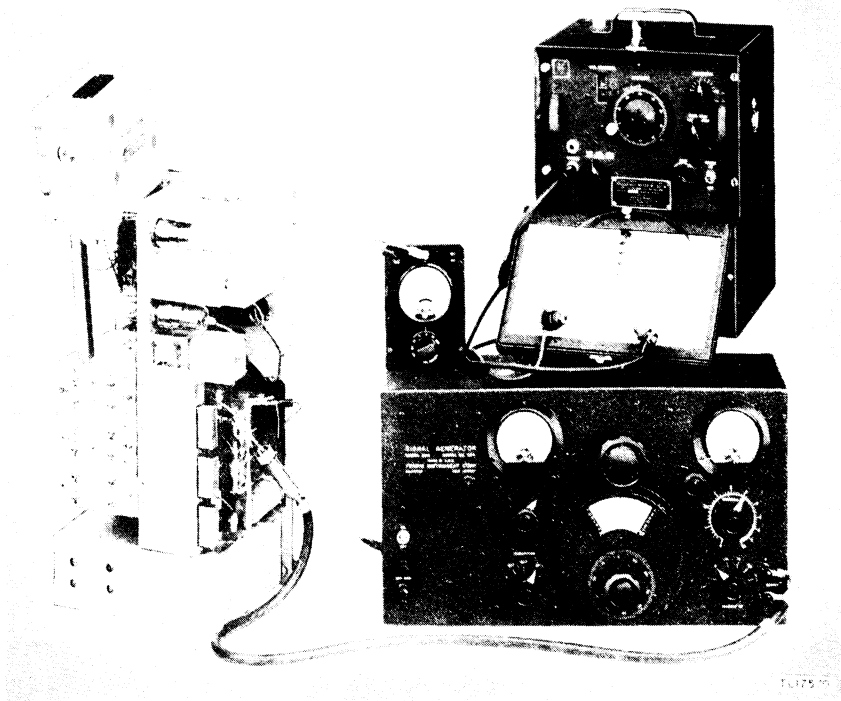
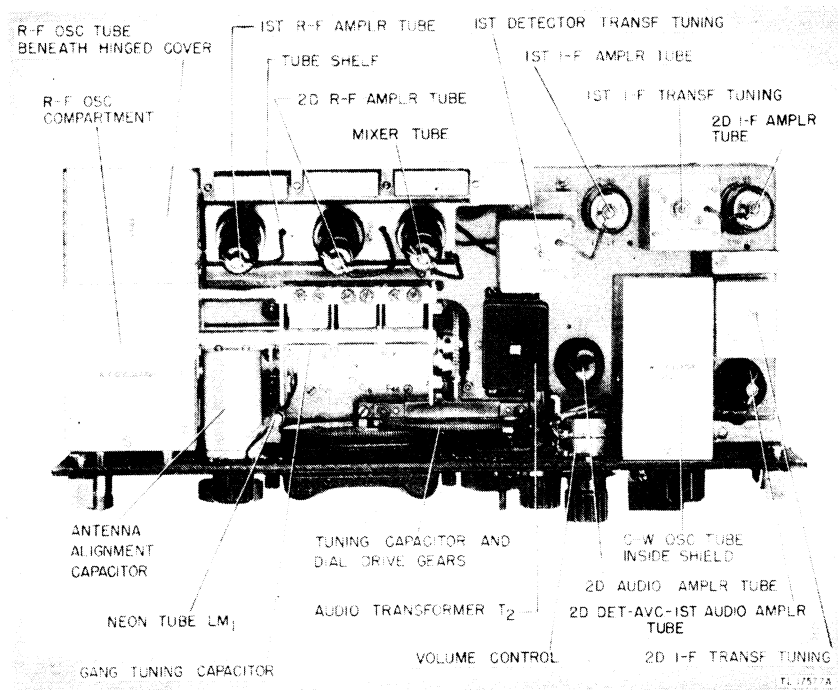

Figure 72. Typical test set up for receiver i-f alignment.
Figure 73. Receiver chassis, top view, showing alignment points.
*a. PREPARATION.* Set up the receiver and alignment equipment as shown in figure 72. Calibrate the signal generator for a 470-kc signal (h-f receiver models) or for a 92.5-kc signal (m-f receiver models). Remove the two screws from the top of the chassis that hold the dynamotor or rectifier in place. Remove the screw from the dynamotor or rectifier inner mounting hinge and swing the power supply assembly upward, securing it in position with a rack or a block of wood. Set the OFF-M.V.C.-A.V.C. switch to M.V.C., the CRYSTAL PHASING control to OUT (h-f models), the SELECT CONTROL at maximum (m-f models), the C.W.-OSC. switch to OFF, and the VOL control to maximum. Loosen the i-f transformer screw locknuts.
*b. PROCEDURE.* (1) Attach the signal generator ground lead to the receiver chassis and connect the dummy antenna (300-ohm resistor) between the grid cap of the second i-f amplifier tube and the output lead from the signal generator.
(2) Connect the output meter to the PHONES 2D AUDIO jack and adjust the signal generator output (modulated) to give a small deflection on the output meter, using the smallest scale possible.
(3) Adjust the second i-f transformer adjustment screws located on the top and bottom of the transformer (figs. 73 and 74) for a maximum output indication. Reduce the signal generator output whenever necessary during alignment to avoid overloading the receiver.
**a. PREPARATION.** Set up the receiver and alignment equipment as shown in figure 72. Remove the two screws from the top of the chassis that hold the dynamotor or rectifier in place. Remove the screw from the dynamotor or rectifier inner mounting hinge and swing the power supply assembly upward, securing it in position with a rack or a block of wood. Set the OFF-M.V.C.-A.V.C. switch to M.V.C., the SELECT CONTROL to maximum, the C.W.-OSC. switch to OFF, and the VOL control to maximum. Loosen the i-f transformer screw locknuts.
**b. PROCEDURE.** (1) Turn on the signal generator and the frequency meter and allow at least 15 minutes for them to warm up to insure frequency stability.
(2) Set the receiver tuning dial to any frequency on any band. For example: 200 kc.
(3) Plug the headset into the frequency meter and insert the end of a lead from the antenna post on the frequency meter into the receiver oscillator compartment (open hinged cover). Lay
a. PREPARATION. Set up the equipment as for the i-f alignment (fig. 72). Calibrate the signal generator for a 470-kc signal (h-f model) or for a 92.5-kc signal (m-f model). If a signal generator capable of producing a 92.5-kc signal is not available, proceed as outlined in paragraph 85 above to obtain the required intermediate frequency. Set the OFF-M.V.C.-A.V.C. switch to M.V.C. or A.V.C., and the C.W.-OSC. switch to ON. Turn the C.W.-OSC. ADJUST control so that the arrow is horizontal, pointing toward the right. Remove the capscrew above the C.W.-OSC. switch, permitting access to the c-w oscillator adjustment screw. Plug a headset or loudspeaker into the receiver output jack.
b. PROCEDURE. (1) Attach the signal generator ground lead to
a. **PREPARATION.** Set up the equipment the same as for the i-f stage alignment. (See fig. 72.) Calibrate the signal generator for a 470-kc signal. Set the OFF-M.V.C.-A.V.C. switch to M.V.C. and the C.W.-OSC. switch to ON. Connect a headset or loudspeaker and an output meter to the receiver output.
b. **PROCEDURE.** (1) Attach the ground lead of the signal generator to the receiver chassis and connect the signal generator